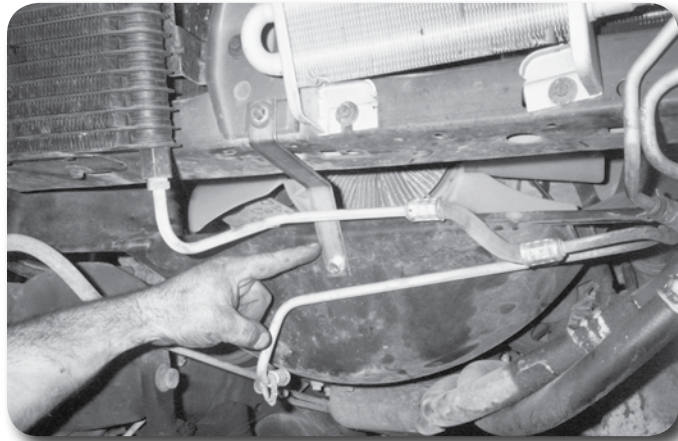

Figure 24A
62. Mount the fan shroud relocation brackets to the (2) original top shroud mounting points with stock hardware.
63. Mount the shroud on the new studs and secure with 1/4" lock nuts and washers. Attach the lower fan shroud relocation bracket to the core support using the existing bolt that secures the cross member in the center of the support **Figure 24A.**